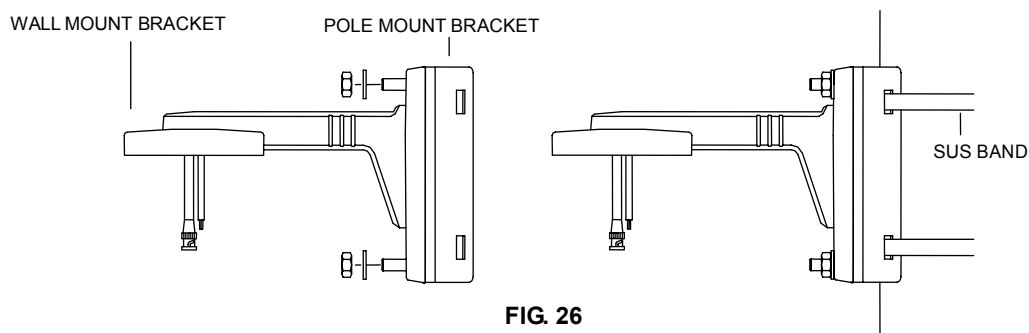
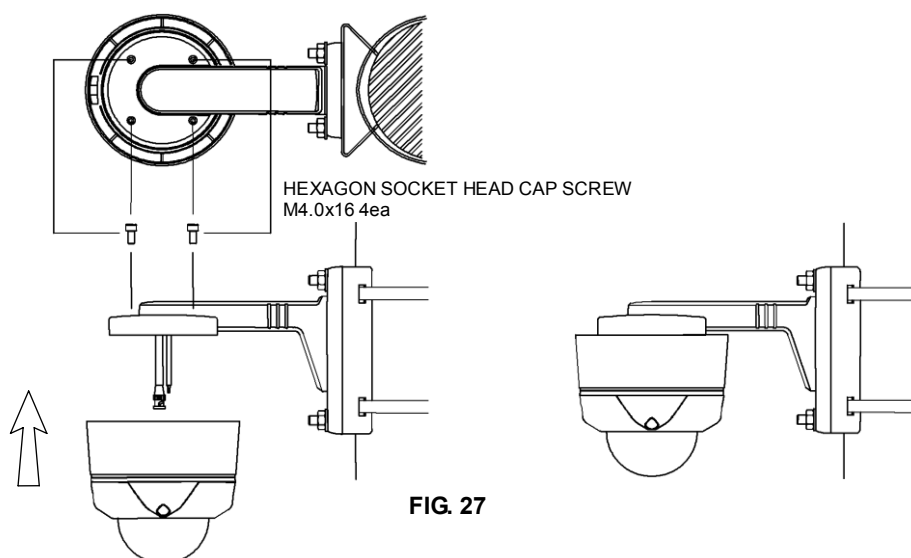

FIG. 26
FIG. 27
2. Tie the bracket with SUS BAND tightly. (FIG. 26)
3. As shown FIG. 26 after installing a wall mount bracket, fix a camera on the wall mount bracket. (FIG. 27)